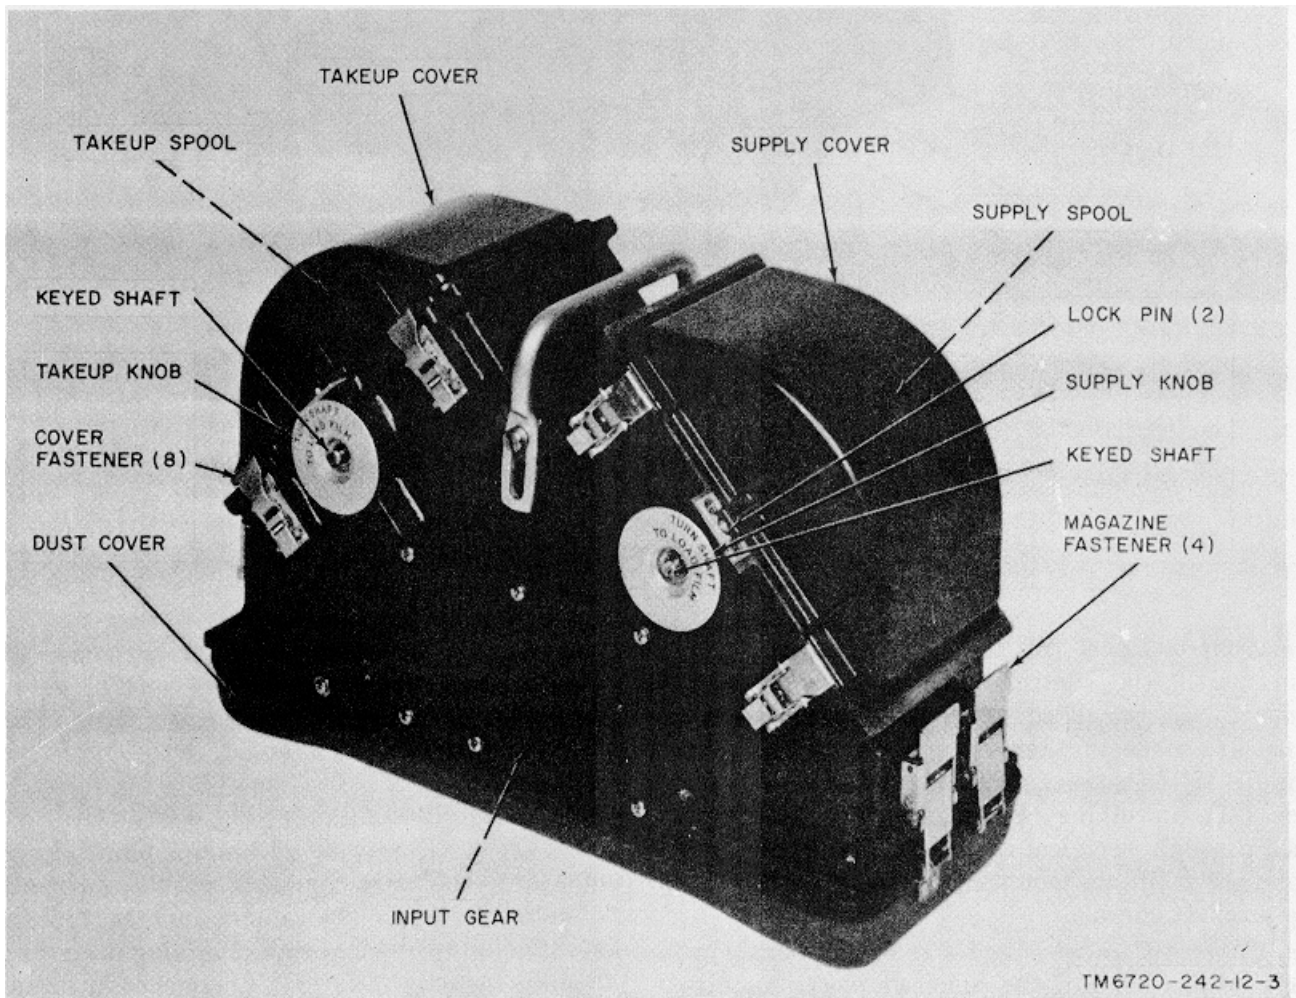

Figure 1-3. Magazine, front view.
b. Magazine (fig. 13). The magazine supplies fresh film to the camera focal plane, where the film is exposed, and takes up the exposed film. It provides space for the supply spool (fresh film), takeup spool, keeper rollers (fig. 3-2), and pressure roller (fig. 3-6). The supply spool (fig. 1-3) stores up to 250 feet of film and is mounted on two keyed shafts. The takeup spool is also mounted on two keyed shafts. Four magazine fasteners latch the magazine to the body and eight cover fasteners latch the two film covers to the magazine. The magazine input gear mates with the body linkage gear (a above). A protective magazine cover is supplied to protect exposed magazine components when the magazine is not installed on the body.